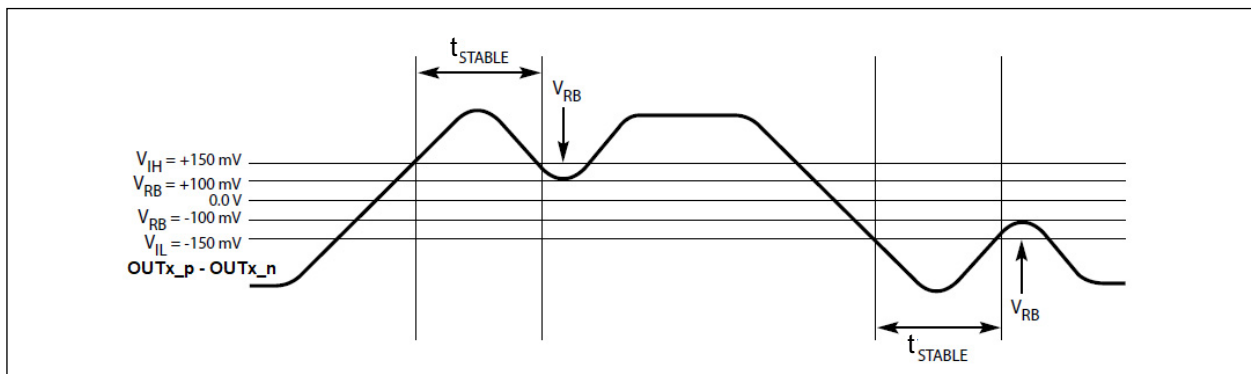

FIGURE 1-6: Differential Measurement Points for Ringback.
- 7:** t_{STABLE} is the time the differential clock must maintain a minimum $\pm 150\text{ mV}$ differential voltage after rising/falling edges before it is allowed to droop back into the $V_{RB} \pm 100\text{ mV}$ differential range. See Figure 1-6.